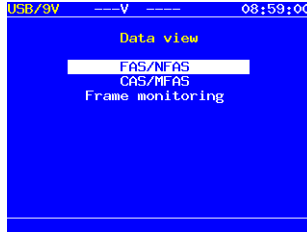

Figure 8.13. "View data" menu
8.7.1. **View Data** menu allows to view contents of a frame, CAS/MFAS words and FAS/NFAS words. The menu screen is shown on Figure 8.13.